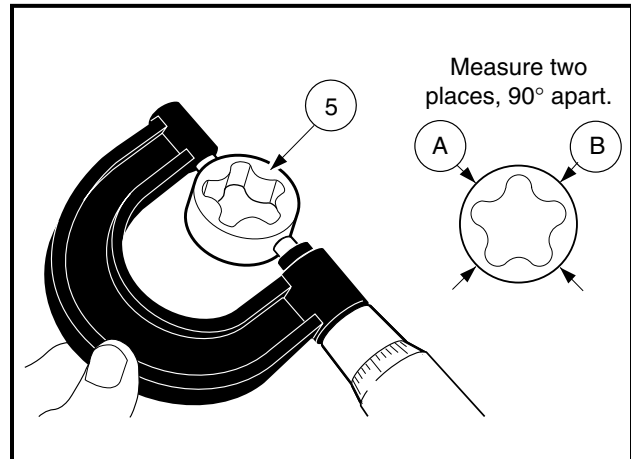

Figure 3-61 Measure O.D. of Outer Rotor
- 4.2. Use a micrometer to measure the diameter of the outer rotor at several points (**Figure 3-61, Page 3-30**).